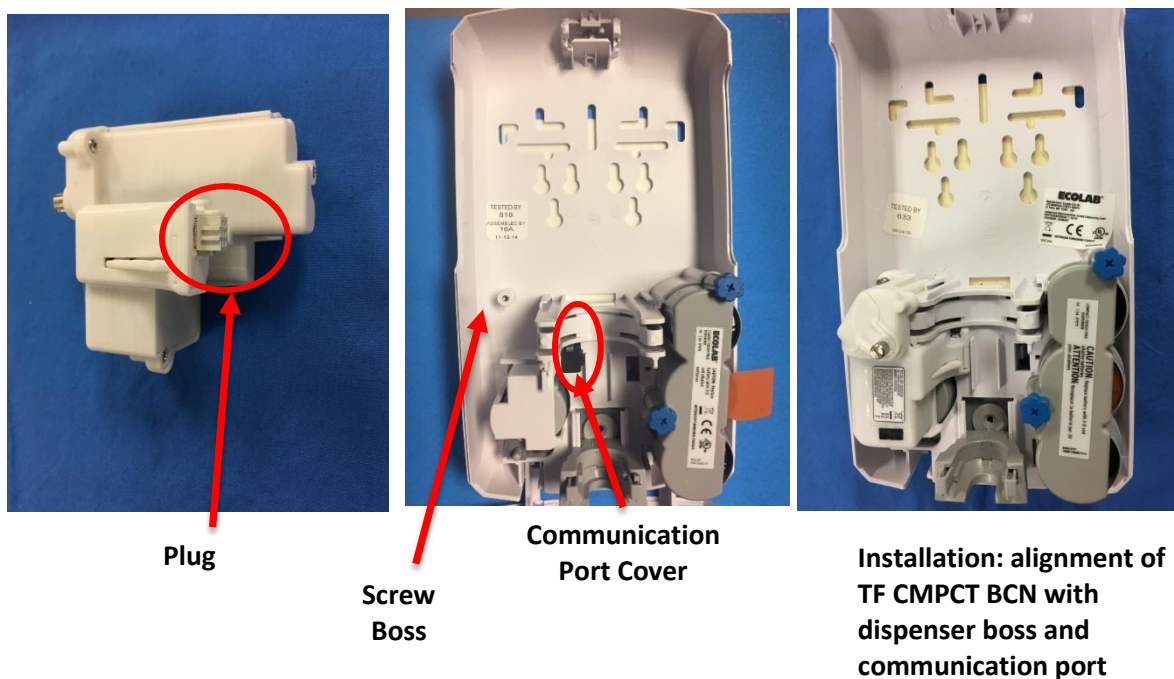

Figure 2. NEXA HHCM TOUCH FREE DISPENSER BEACON (COMPACT) Installation into Nexa™ Touch Free Dispenser
- (1) Open the dispenser by depressing the top latch button.
- (2) Remove product bottle (if any) from the dispenser and set aside.
- (3) Remove the rubber communication port cover in the back of the dispenser (see figure 2) and discard.
- (4) Align the plug with the communication port and the housing's captive screw with the screw boss in the back of the dispenser (see figure 2).
- (5) Gently but firmly insert the plug (adjusting the plug may be necessary) into the communication port, until it is firmly seated in the port.
- (6) Tighten the captive screw finger tight into the boss.
- (7) Replace the product bottle within the dispenser.
- (8) Close the dispenser.